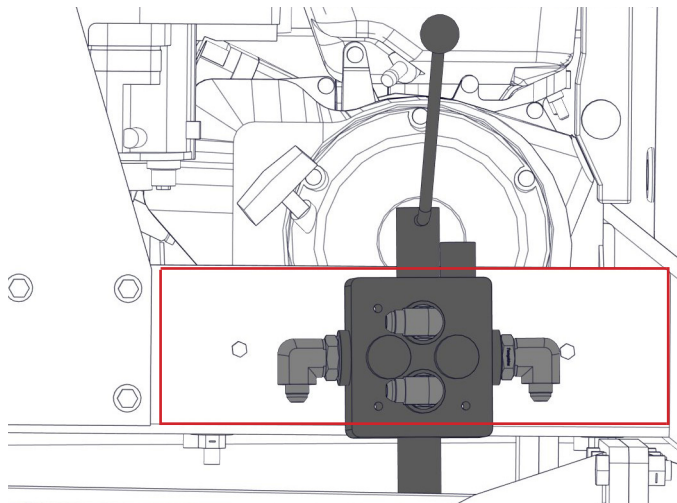

Fig. 14
- **Place control in the center of the red box in Fig. 14.**
- **Drill (2) 5/16" holes using the points as a guide.**
- **Attach the valve control using (2) 1/4" x 2" hex bolts and (2) 1/4" centerlock hex nuts.**